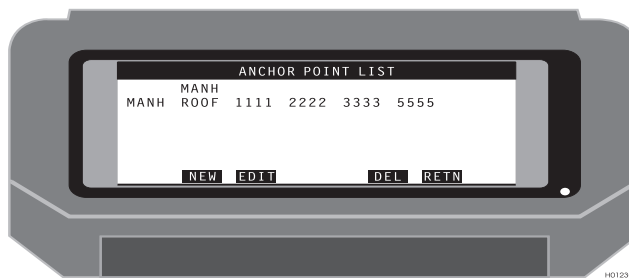

Figure 2.41. Anchor Point List Screen
- To view the points used in the local system definition, access the Anchor Point List screen (Figure 2.41).